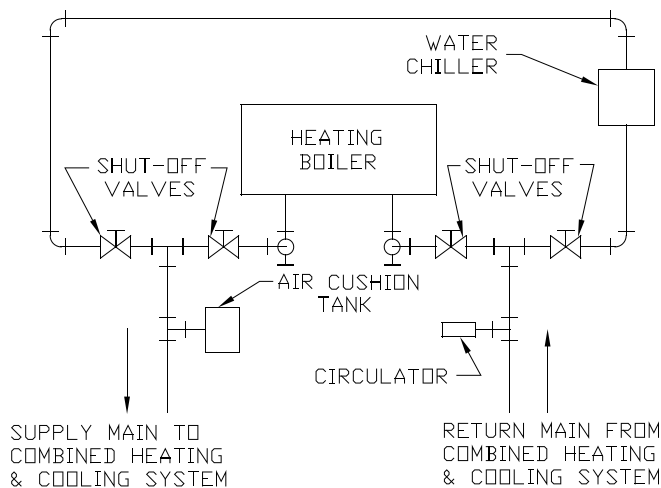

Figure 13: Recommended Piping for Combination Heating & Cooling (Refrigeration) Systems
- d. If this boiler is used in connection with refrigeration systems, the boiler must be installed so that the chilled medium is piped in parallel with the heating boiler using appropriate valves to prevent the chilled medium from entering the boiler, see Figure 13. Also, consult I=B=R, "Residential Hydronic Heating Installation and Design Guide".